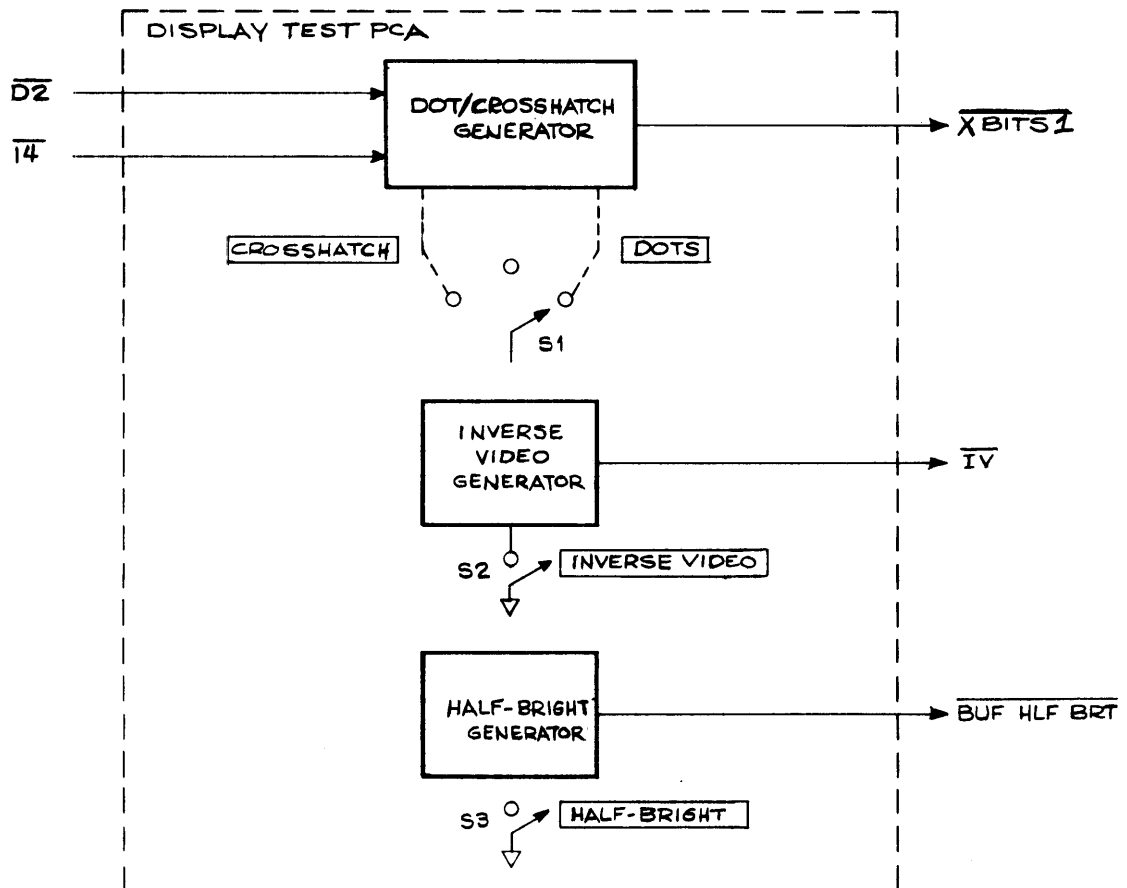
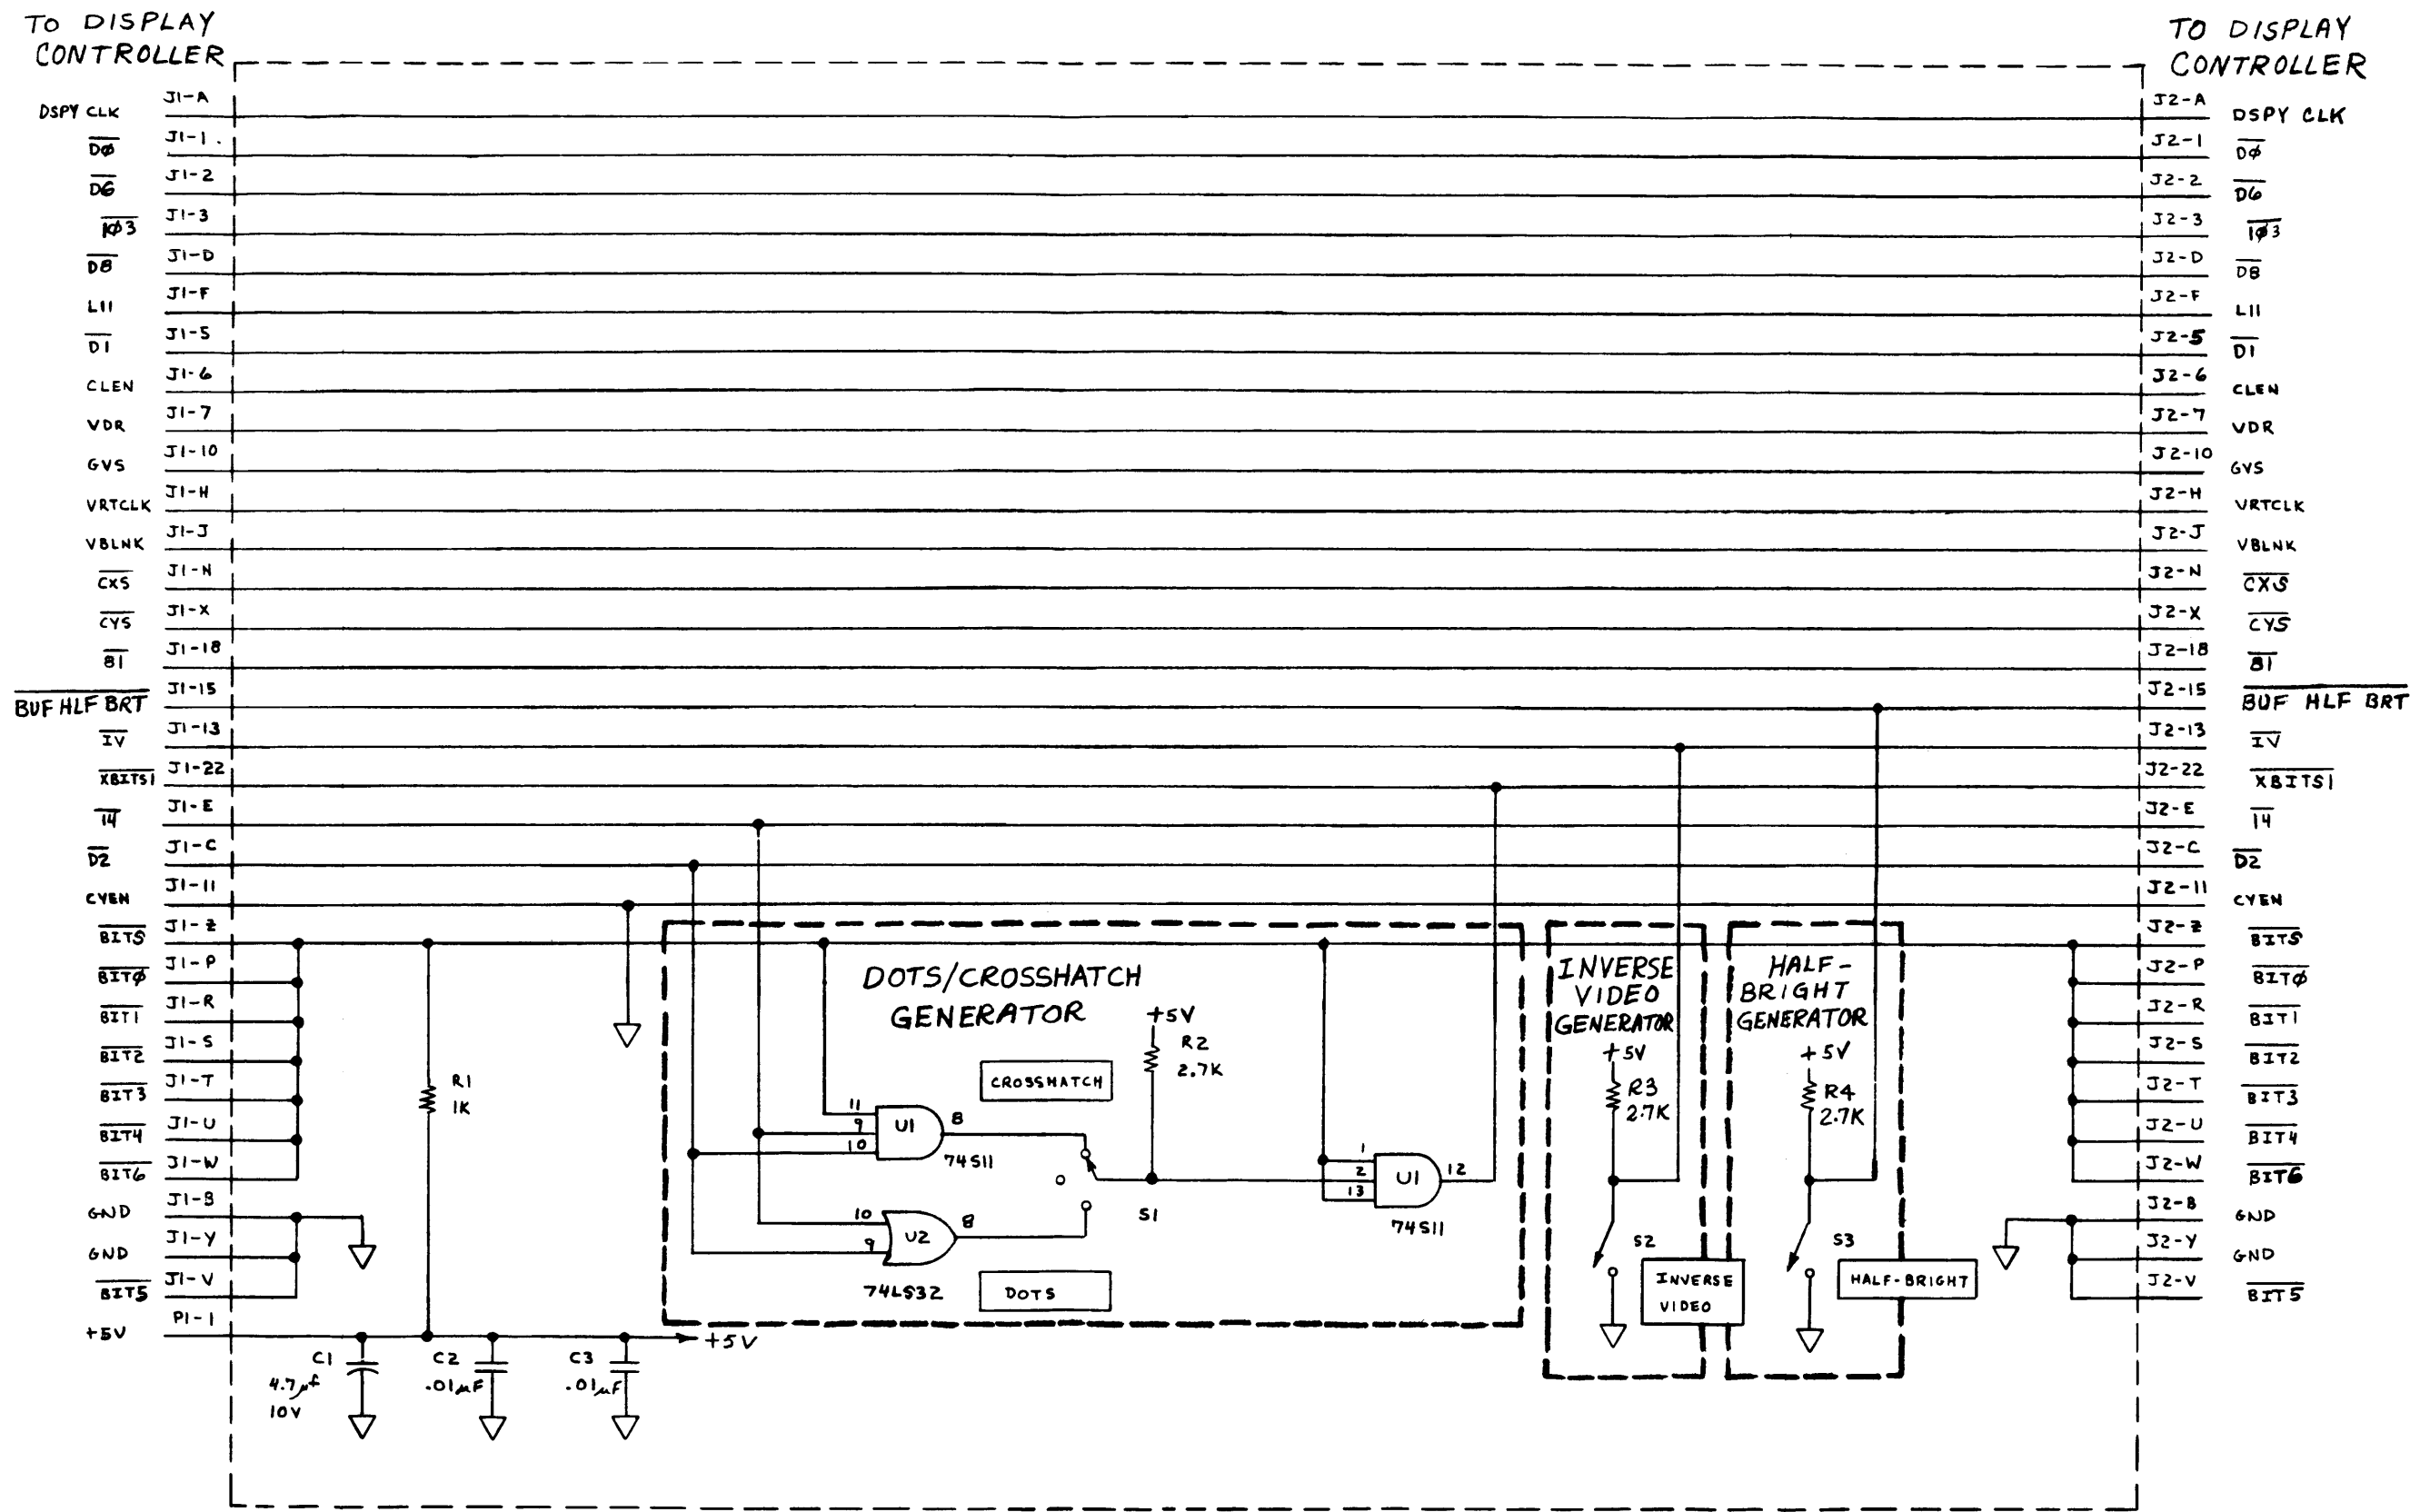
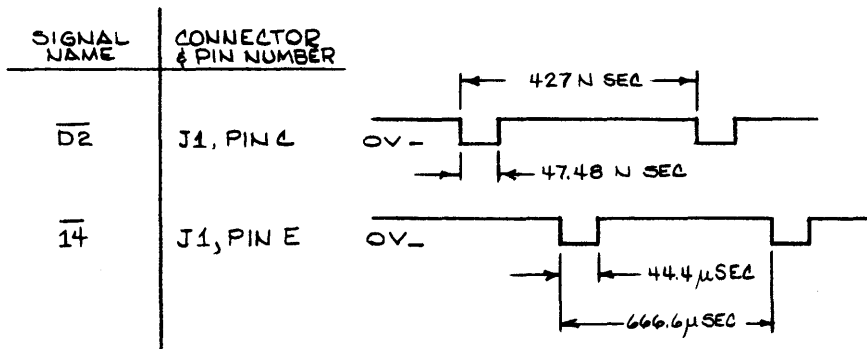
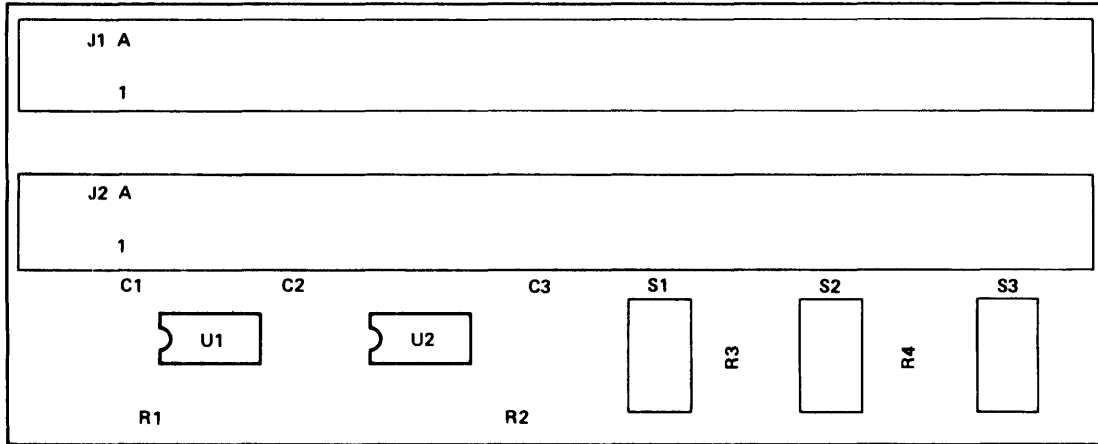

Figure 1
Figure 2
Figure 3
Figure 4
3.0 FUNCTIONAL DESCRIPTION. Refer to the block diagram (figure 1), schematic diagram (figure 2), timing diagram (figure 3), component location diagram (figure 4), and parts list (02640-60063) located in the appendix.